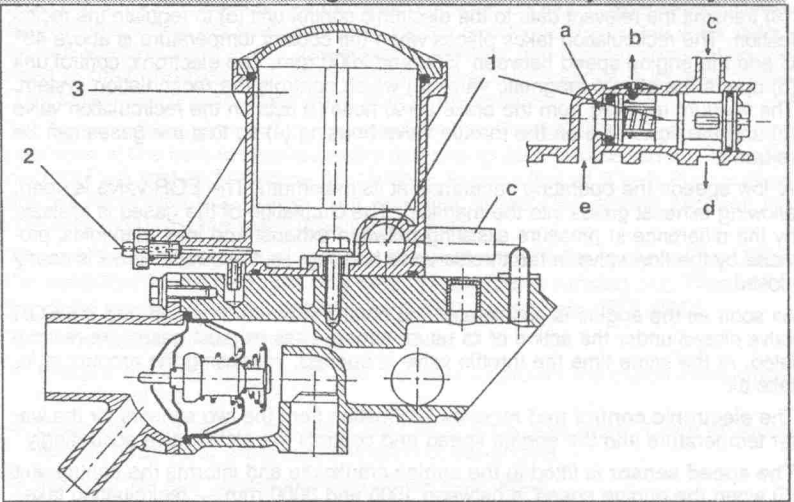

Fig. 1.77. — Sectional view of the fuel filter and fuel heating system.
**Fuel Filter and Fuel Heater Housing:** The filtration and fuel heating functions are integral with the engine. The fuel is heated by the engine cooling system, at the water outlet housing. A thermostatic element, shown in the sectional view of Fig. 1.77, controls the quantity of fuel to be heated. The heating takes place in accordance with the outside temperatures. If the temperature is below 15° C, the temperature element lifts off its seat "a". The fuel can enter via "c", flows via "d", is heated by the water housing and then passes to the filter via "e" and "b". As the temperature rises to between 15 and 35° C, the thermostatic valve is only partly open. Only part of the fuel flows as described above, the remaining fuel passes directly from "c" to "b".